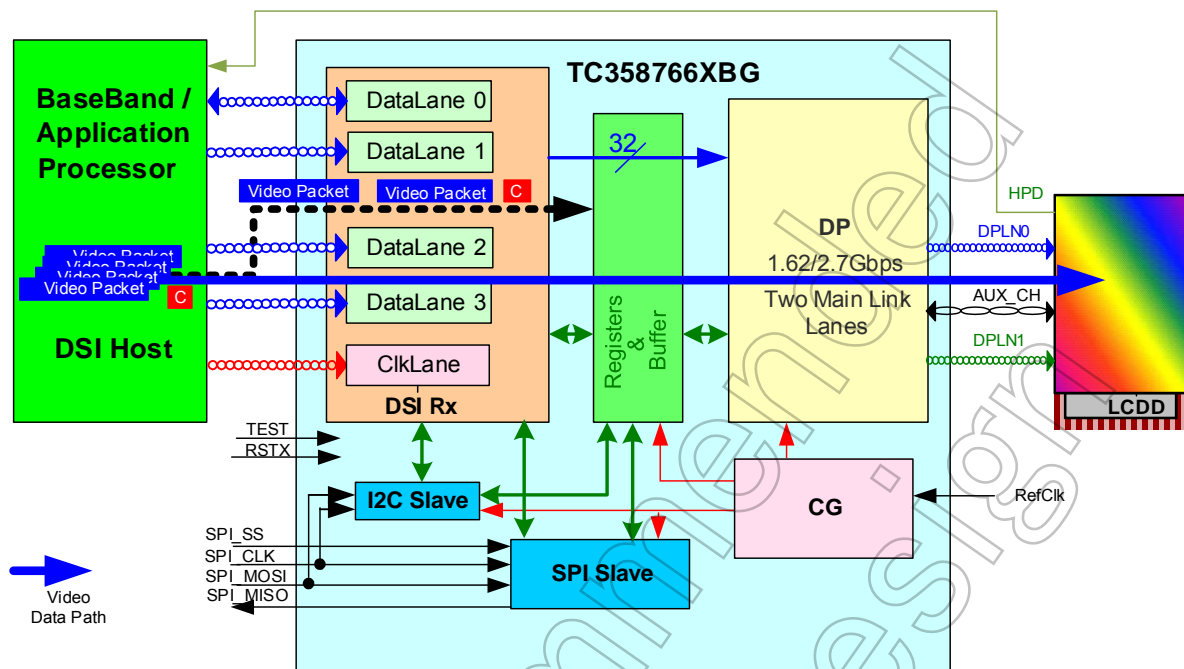

Figure 1.1 System Overview with TC358766XBG in MODE_S21 Configuration
- **Mode_S21:** A system configuration where TC358766XBG may typically be used is shown in Figure 1.1. In this system, TC358766XBG could be connected to a single display. In this configuration, the TC358766XBG can support displays with resolution up to WUXGA (1920x1200) at 24bit, 60 fps or WUXGA (1920x1200) at 18bit, 60 fps. Video stream source is from DSI Host.